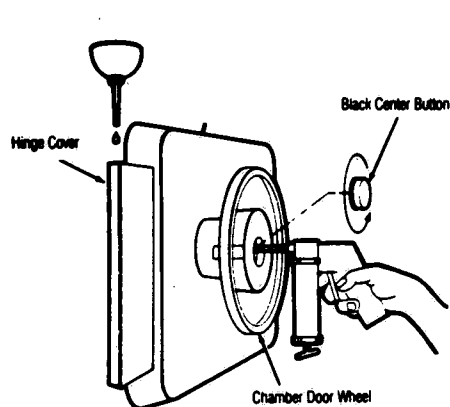

FIGURE 4-2 - Lubricating Chamber Door
Place a few drops of heavy machine oil (SAE 20 or 30 motor oil) on chamber door hinge pins, top and bottom (Figure 4-2). Work oil into hinge by opening and closing the door several times.
- a. Unscrew the black button in the center of chamber door wheel to expose the door post grease fitting (Figure 4-2).